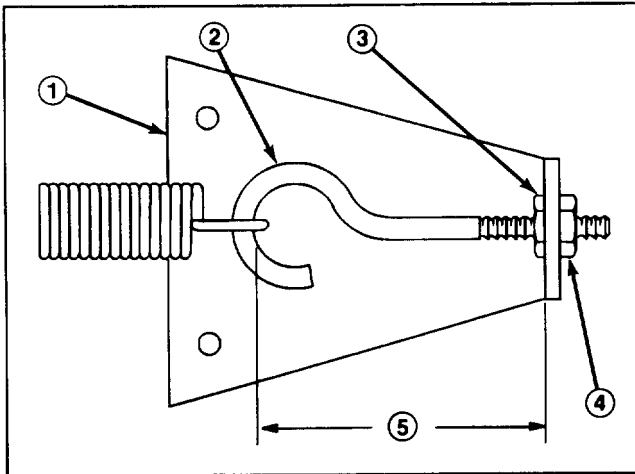

Figure 66
CHECKING AND ADJUSTING TRACTION LINKAGE (Fig. 66)
4. Rotate, clockwise, until distance between inside of eye bolt loop and inside of spring anchor plate is shortened 1/8", as shown in figure 66. Tighten hex nut.